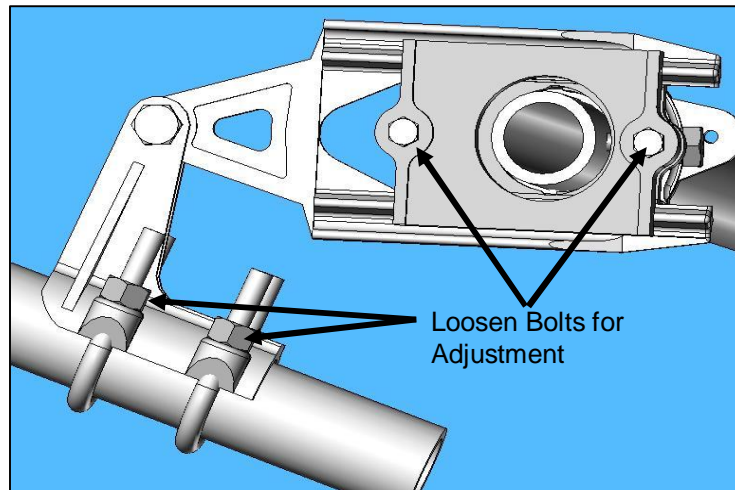

Figure 15: Adjustable Arm Assembly - Top View
- 14.2.3.5. Lengthen the adjustable radius arm approximately 1/4-inch. Allow the pipe clevis to reposition itself the same 1/4- inch. Refer to **Figure 15**
- 14.2.4.5. Shorten the adjustable radius arm approximately 1/4-inch. Allow the pipe clevis to reposition itself the same 1/4- inch. Refer to **Figure 15**